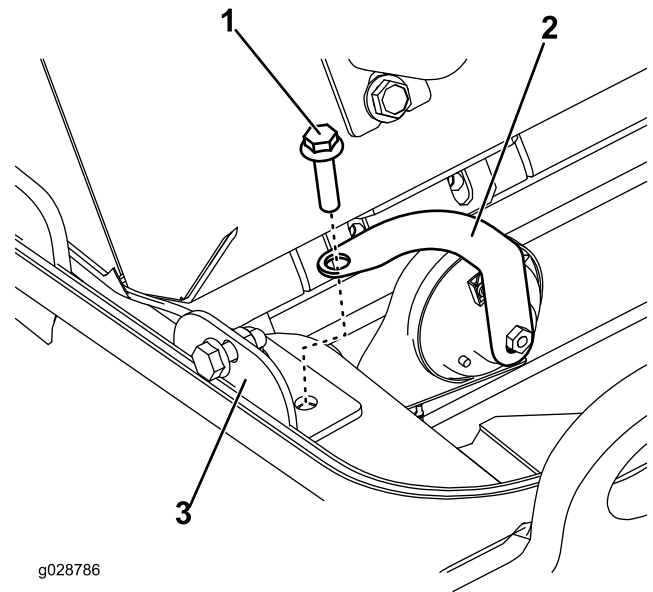

Figure 9
4. Remove the forward bolt from the existing bracket, and use it to install the mounting bracket (Figure 9).